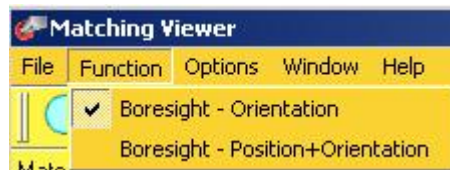

Figure 6: Function menu
| Figure 6: Function menu | 5 |
2. Select **Function** (Figure 6), and choose: